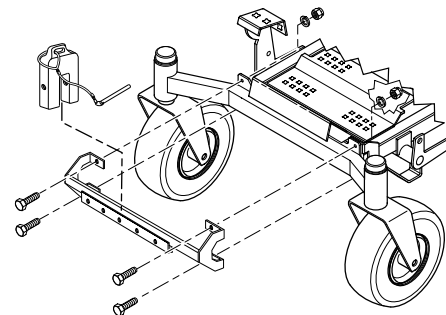

FIGURE 3-6
14. Using the weight support bar as a guide, identify the four corresponding mounting holes, and the existing hardware that will need to be removed in order to secure the weight support bar to the front of the machine as shown. See Figure 3-6.
15. Install one (1) 7/16-14 x 1-3/4" hex head bolt into each of the four (4) mounting holes in the weight support bar, and through the matching holes in the caster support weldment. Secure this assembly to the front of the machine using the 7/16-1/2" x 1-1/4" x .083" flatwashers, and the 7/16-14 elastic stop nuts. Torque hardware to 59 ft. lbs. See Figure 3-6.